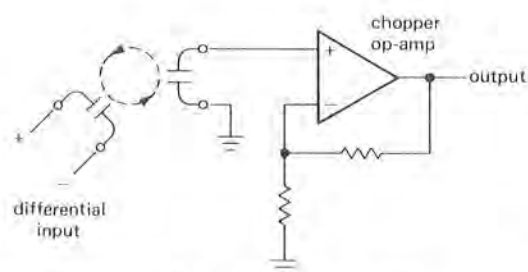

Figure 7.23. ICL7605 flying-capacitor differential amplifier with high CMRR.
- **Instrumentation amplifier.** Another “chopper” technique in use is the so-called “commutating auto-zeroing” (or CAZ) amplifier, originated by Intersil. In this technique, typified by the ICL7605 flying-capacitor instrumentation amplifier, MOSFET switches enable you to store the differential input signal across a capacitor, then amplify it with a single-ended chopper-stabilized amplifier (Fig. 7.23). You get charge-coupled spikes at the clock rate, just as with the standard auto-zeroing amplifier, which puts the same sort of limitations on the CAZ technique as we saw earlier. Although we raved about CAZ amplifiers in our first edition (“...stands a good chance of revolutionizing precision op-amp and instrumentation amplifier technology”), they’ve been finessed by the better auto-zeroing technique in which the signal always passes through a single amplifier.